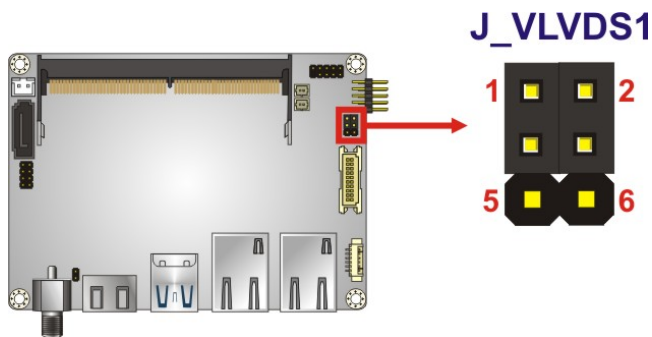

Figure 4-5: LVDS Voltage Selection Jumper Location
- Jumper Location:** See **Figure 4-5**